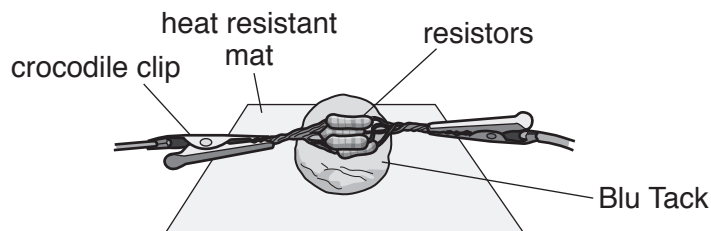

Fig. 4.1
2. Five resistors of resistance $22\ \Omega$ 5% 2W (e.g. RS 707-8808) should be twisted together and pressed into a piece of Blu Tack (approximately 10g). The resistors should have a tolerance of 5% and a power rating of 2W. Crocodile clips should be attached to the resistor wires as shown in Fig. 4.1. The resistors will act as a heater when the circuit is complete so the Blu Tack must be placed on a heat resistant mat.